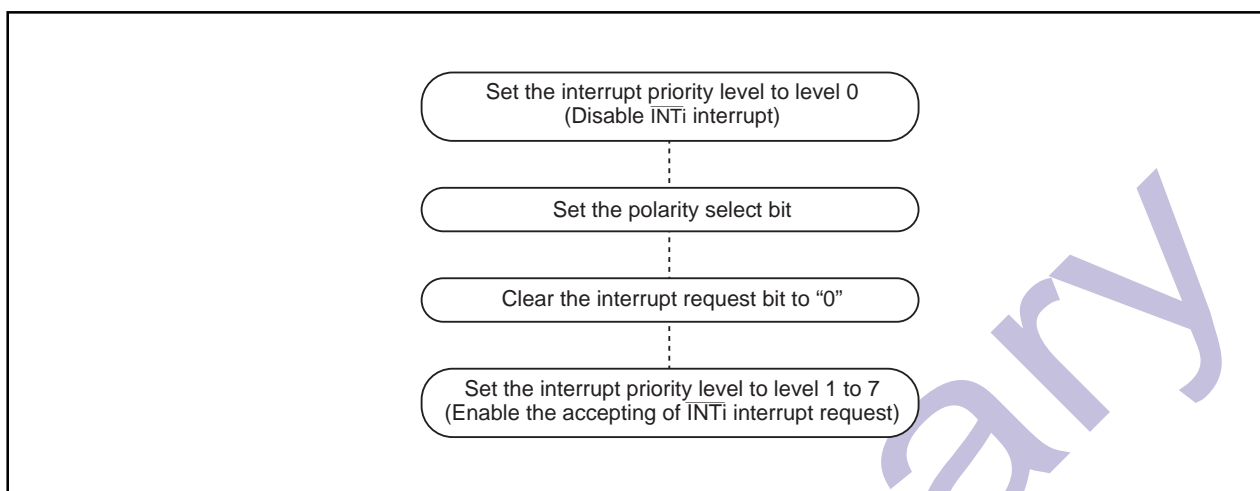

Figure 1.9.12. Switching condition of INT interrupt request
(3) The $\overline{\text{NMI}}$ interrupt
(4) External interrupt
- When the polarity of the INT₀ to INT₅ pins is changed, the interrupt request bit is sometimes set to "1". After changing the polarity, set the interrupt request bit to "0". Figure 1.9.12 shows the procedure for changing the $\overline{\text{INT}}$ interrupt generate factor.
(5) Rewrite the interrupt control register